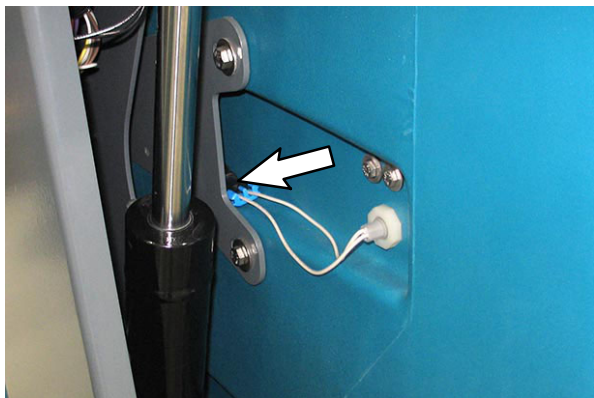

FIG. 2
1. **M20 machines only:** Disconnect the wire harness from the existing float sensor. (Fig. 2)